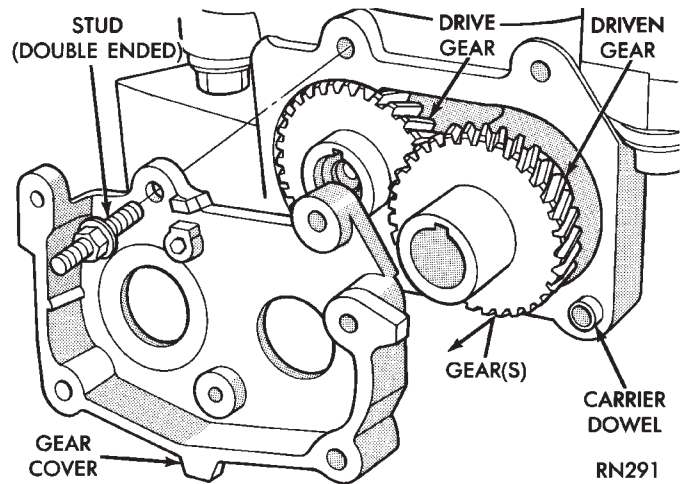

Fig. 42 Gear Cover and Gears
(5) Remove carrier gear cover and balance shafts (Fig. 42).
(6) Remove four carrier to crankcase attaching bolts to separate carrier from engine bedplate.